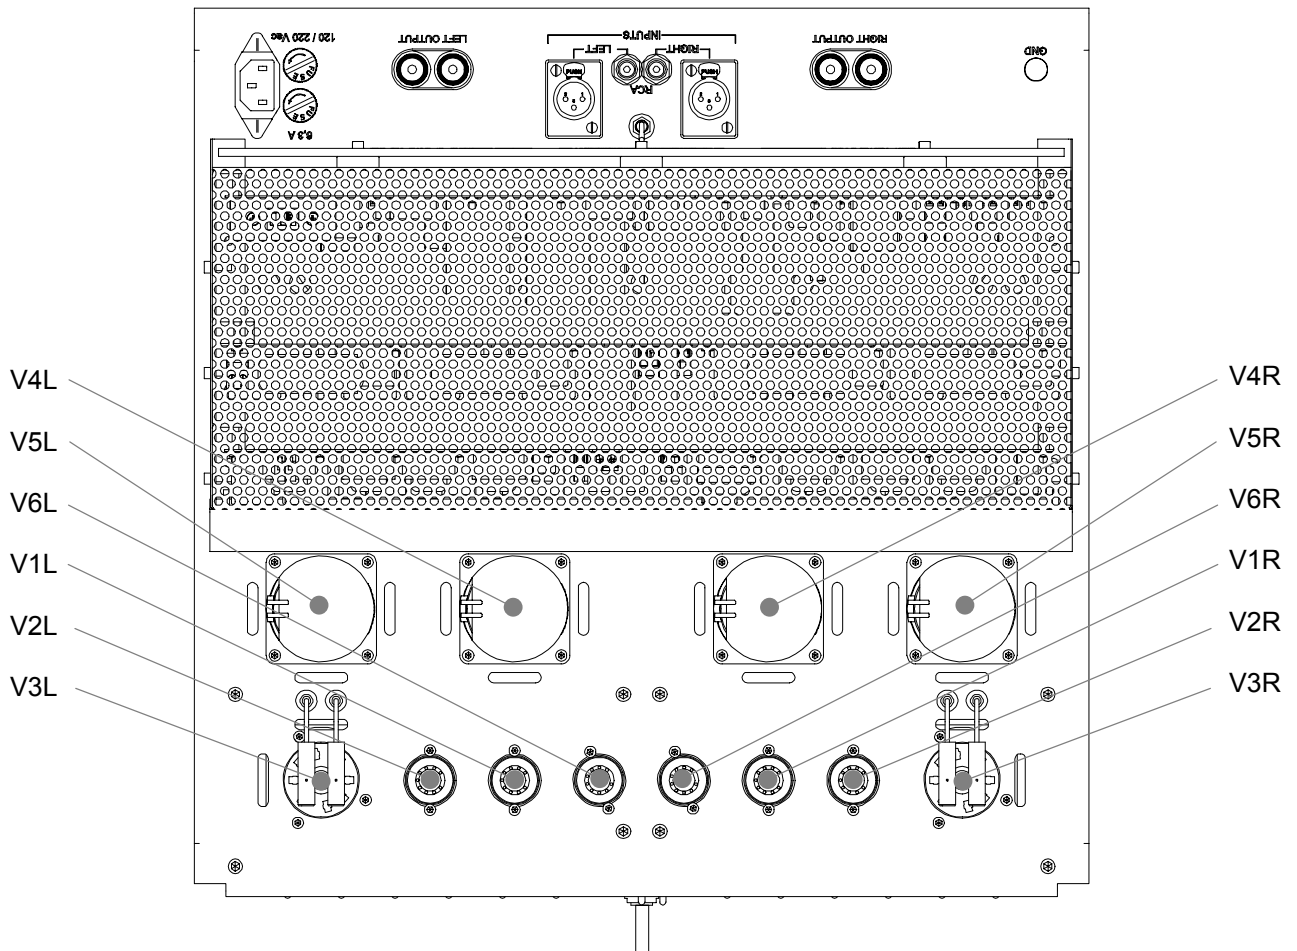

Figure 9
The **ICON** Chassis has nomenclature screened on it to specify both the circuit location and Tube type for each channel. Refer to figure 9.
2. Locate a GU50 (V5L) Power Output Tube. Refer to figure 9. Screw down the GU50 knob to the top of the tube and pull it from the Tube Box.
2. On the top left side of the amplifier, locate the Tube Socket that has the nomenclature V3L next to it on the chassis. Refer to figure 9.
5. Slip on two cylindrical terminals to the A1 – top lead and A2 – top lead of the tube. Refer to figure 9.
2. On the top left side of the amplifier, locate the Tube Socket that has the nomenclature V6L next to it on the chassis. Refer to figure 9.
2. On the top left side of the amplifier, locate the Tube Socket that has the nomenclature V2L next to it on the chassis. Refer to figure 9.